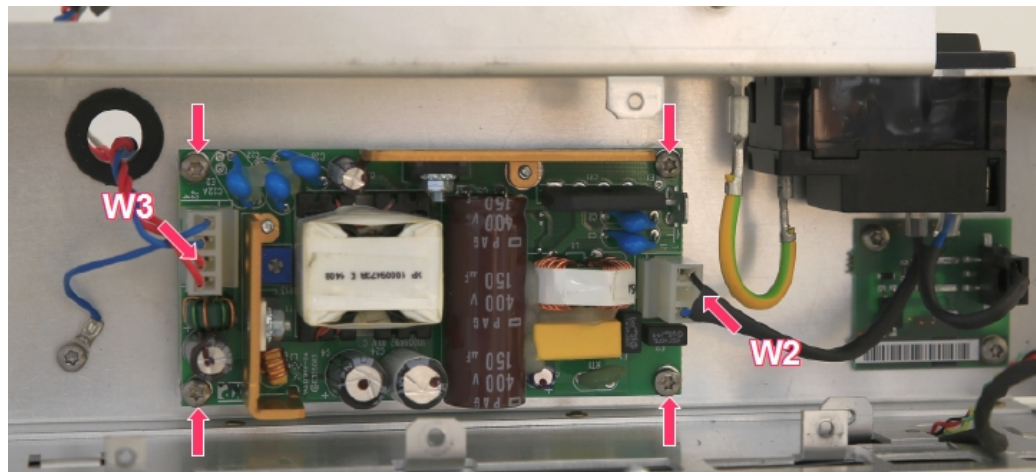

Figure 4-6: Remove the power supply unit
5. Remove the cable from the power inlet (W2) and the power supply cable (W3) from the power supply unit. See Figure 4-6.
7. Now the power supply unit (310) is free to remove from the mainframe.